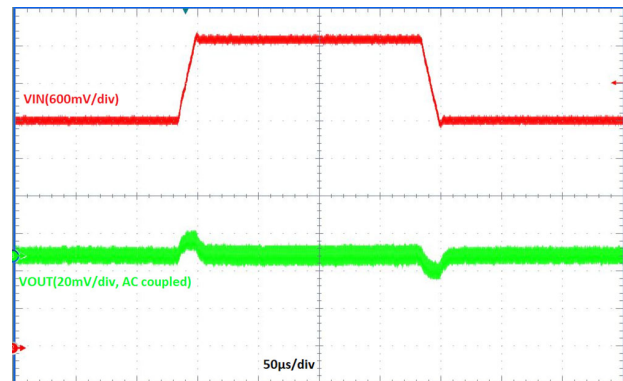

Figure 19. Line Transient,  $V_{IN} = 3.8\text{ V} \leftrightarrow 5\text{ V}$ ,
6. Refer to Fig. 19 Typical Derating Curve for additional  $I_{OUT(MAX)}$  guidance.